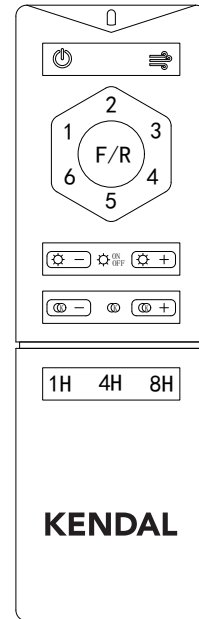

Figure 24
- A. Press the "⏻" button to turn off the fan (\*this button is only used to turn off the fan, it cannot start the fan, and it will not turn off the LED lamp Fig.24)